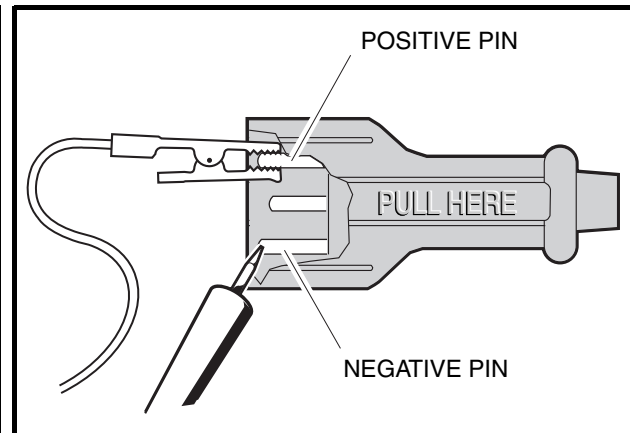

Figure 8-13 DC Plug Test – Probes Reversed
3. Reverse the test probes and check the DC plug again (**Figure 8-13, Page 8-18**). The circuit should show continuity in only one direction.